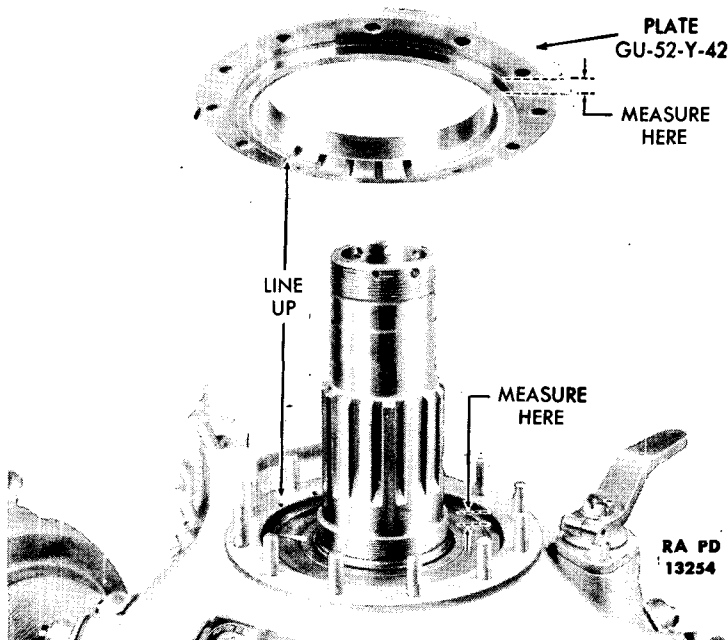

Figure 91—Installing the Front Plate
117. INSTALL FRONT BEARING PLATES (fig. 91).
b. Procedure. The front bearing plate goes over the studs around the crankshaft, and must put a pinch of from 0.002 to 0.009 inch on the bearing race. Before mounting front bearing plates, use a depth micrometer to measure the distance from the crankcase to the bearing race, and the flange depth on the front bearing plate GU-52-Y-42, as shown in figure 91. These two dimensions should total from 0.024 to 0.031 inch. Since the gasket will compress to 0.022 inch, this clearance will give the right amount of pinch. If the clearance is too